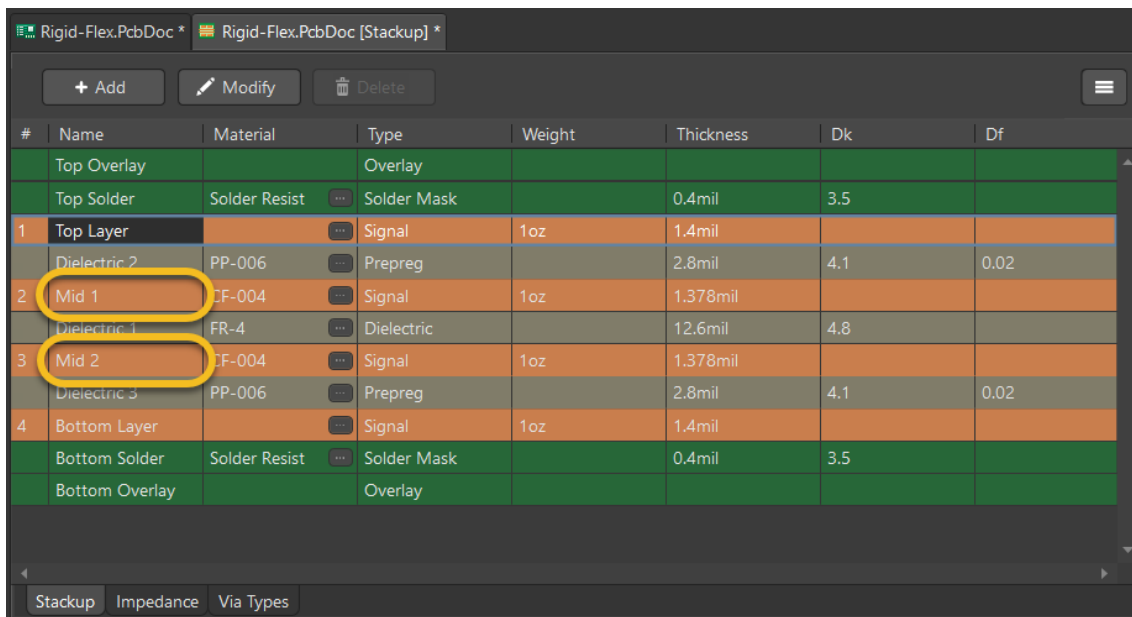

Figure 7. Layer renaming
24. Double-click on the `Layer 1` cell to rename it to `Mid 1`, as shown in Figure 7.